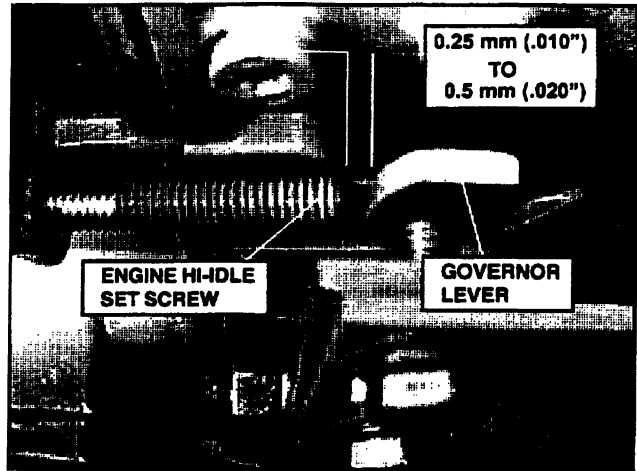

FIGURE 6.21A
22. Manually rotate the stepping motor shaft until the governor lever is 0.25mm (.010") ~ 0.5mm (.020") from the Hi-Idle Stop Set Bolt. Hold in position and depress the Special Adjustment Harness Switch once to lock stepping motor in position (you will feel the stepping motor lock into position). See Figure 6.21A.